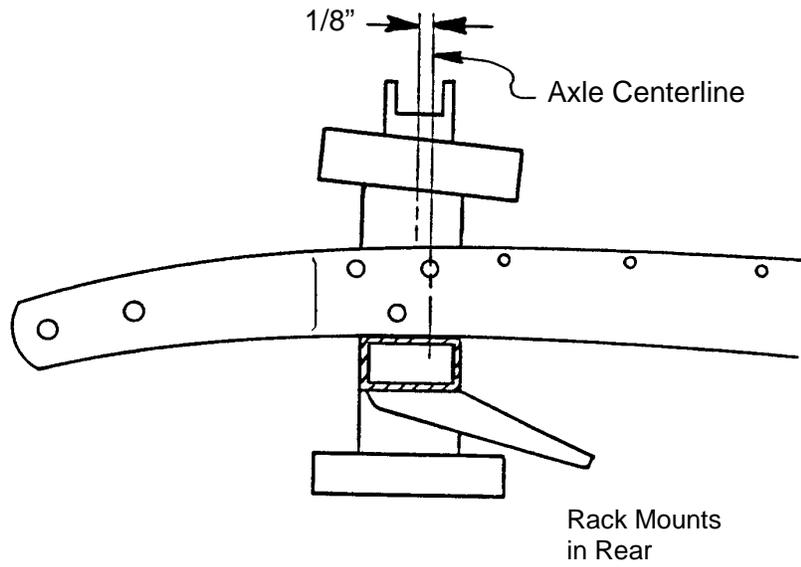

Figure 2
5. Trial fit the new crossmember onto the rails. It should be located with its centerline 1/8" forward of the marked axle centerline. See Figure 2. The caster setting will bring the spindle pin back in line. The frame is 27-3/8" wide at the axle centerline. During boxing, the rails may have a tendency to bow outward slightly if they were clamped ahead of the axle centerline. Pull the rails in to fit the crossmember up onto the rails. It should be seated flat against the bottom of the frame rails. Clamp in place, double check your measurements, making sure crossmember is squared on the frame, then weld in place. Weld all around, top, sides and bottom. This crossmember keeps the front frame rails from twisting and flexing, so good strong welds are required.